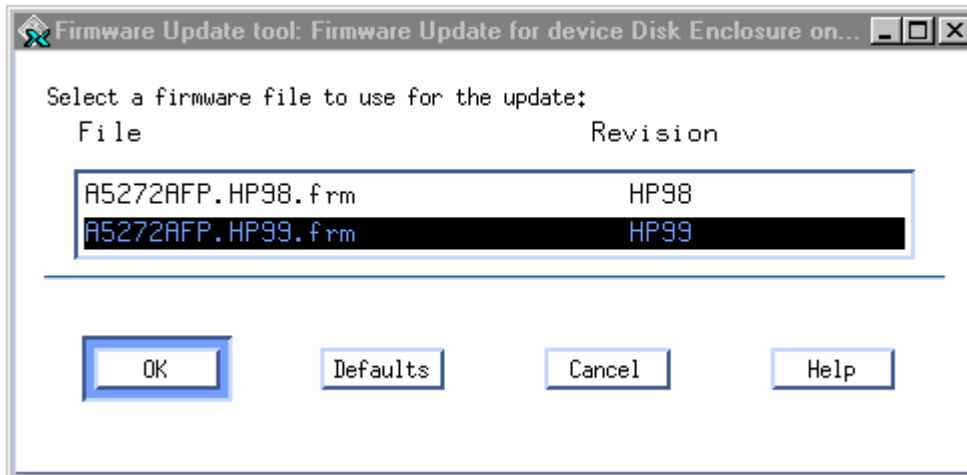

Figure 69 Firmware File Selection Window
6. Select **Firmware Update > Run** from the Tools menu. A tool window opens, displaying the current firmware version and instructions for updating. A second window (Figure 69) lists the available firmware files in the `var/tmp` directory.